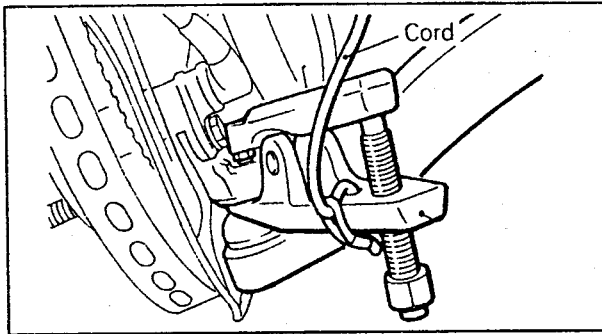

Fig. 9.1. — Separating the suspension ball joint from the bottom of the spring strut. Attach the puller with a piece of cord to prevent accidents.
- Remove the two drain plugs from the automatic transmission. One is located at the lower part of the differential assembly and the other one in the oil sump. (Fig. 9.1). Drain the fluid into the container. Immediately clean the plugs and screw back in position. The tightening torque is 3.0 - 3.5 kgm (22 - 25 ft.lb.).
- Unscrew the nut securing the suspension arm ball joint to the steering knuckle and separate the ball joint connection with a suitable puller, as shown in Fig. 9.1. Note that the puller is attached with a piece of cord to the front suspension to prevent it from "flying" away when the ball joint is free.
- Separate the ball joint connection at the bottom of the steering knuckle with a suitable puller (see Fig. 9.1).